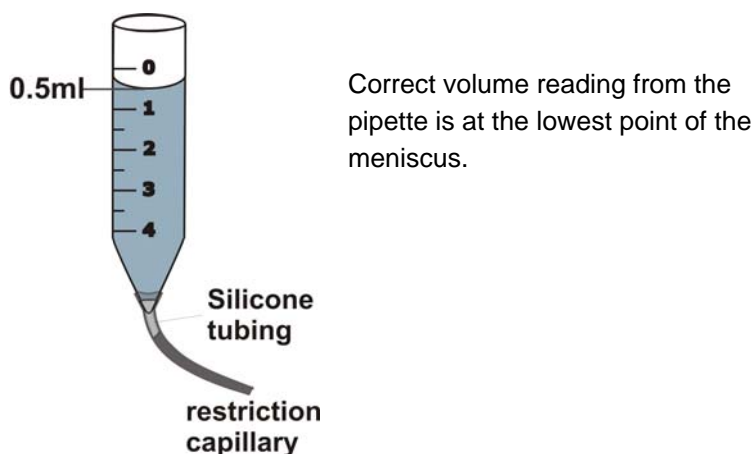

Fig. 6. Flow measurement with graduated 5 mL pipette.
2. Connect the inlet of the graduated analytical pipette to the outlet of the restriction capillary using a short piece of silicon tubing (see figure 6). Or connect the restriction capillary to a calibrated flow meter.